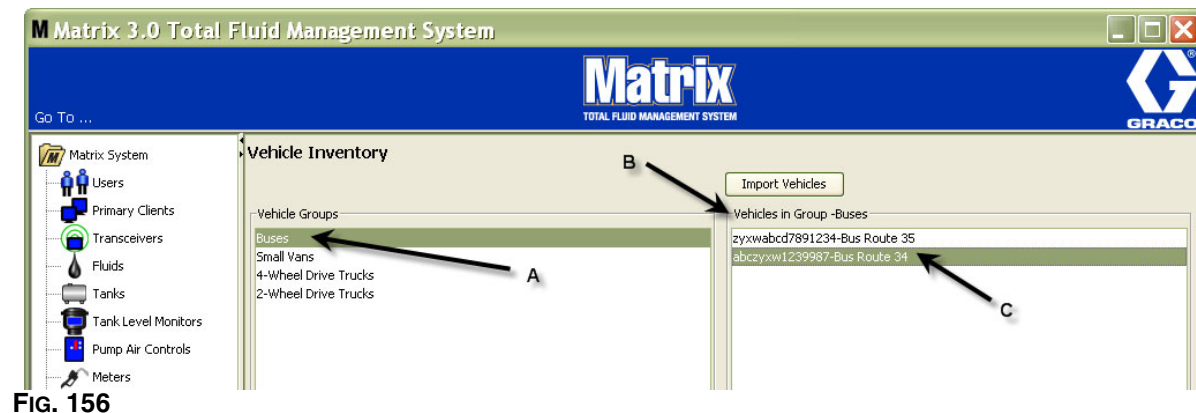

FIG. 156
7. The vehicles will only be displayed on the main Vehicle Inventory Screen when the specific group it is associated with is highlighted. In the example provided in FIG. 156 the Vehicle Group Buses is highlighted (A). Notice that the Group Name "Buses" has been added at the end of the Vehicles in Group column title (B) and the list displayed in that column only contains the Buses that are in the fleet inven-
Sections A, B, and C in FIG. 159 correspond to Sections A, B, and C in FIG. 156.